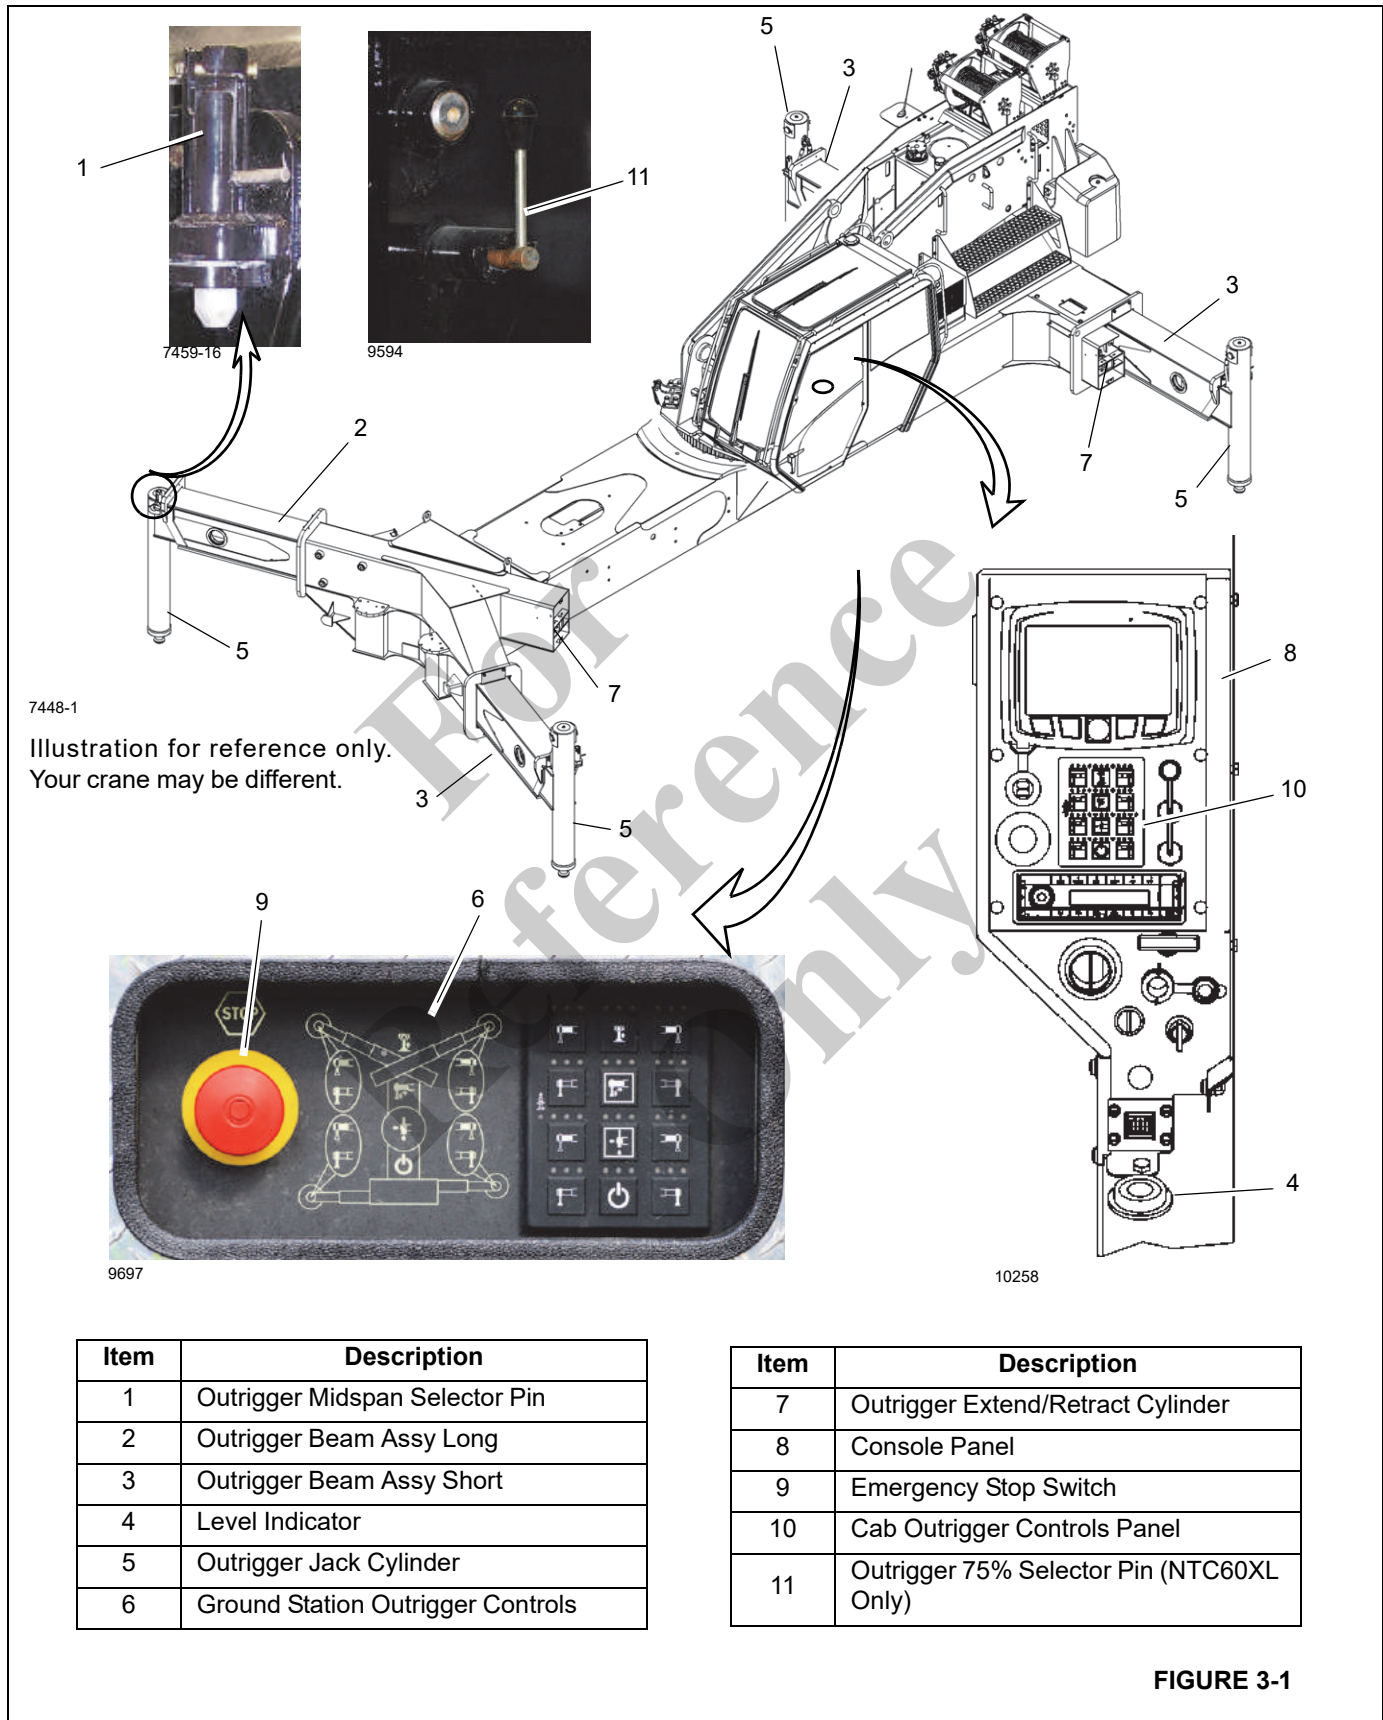
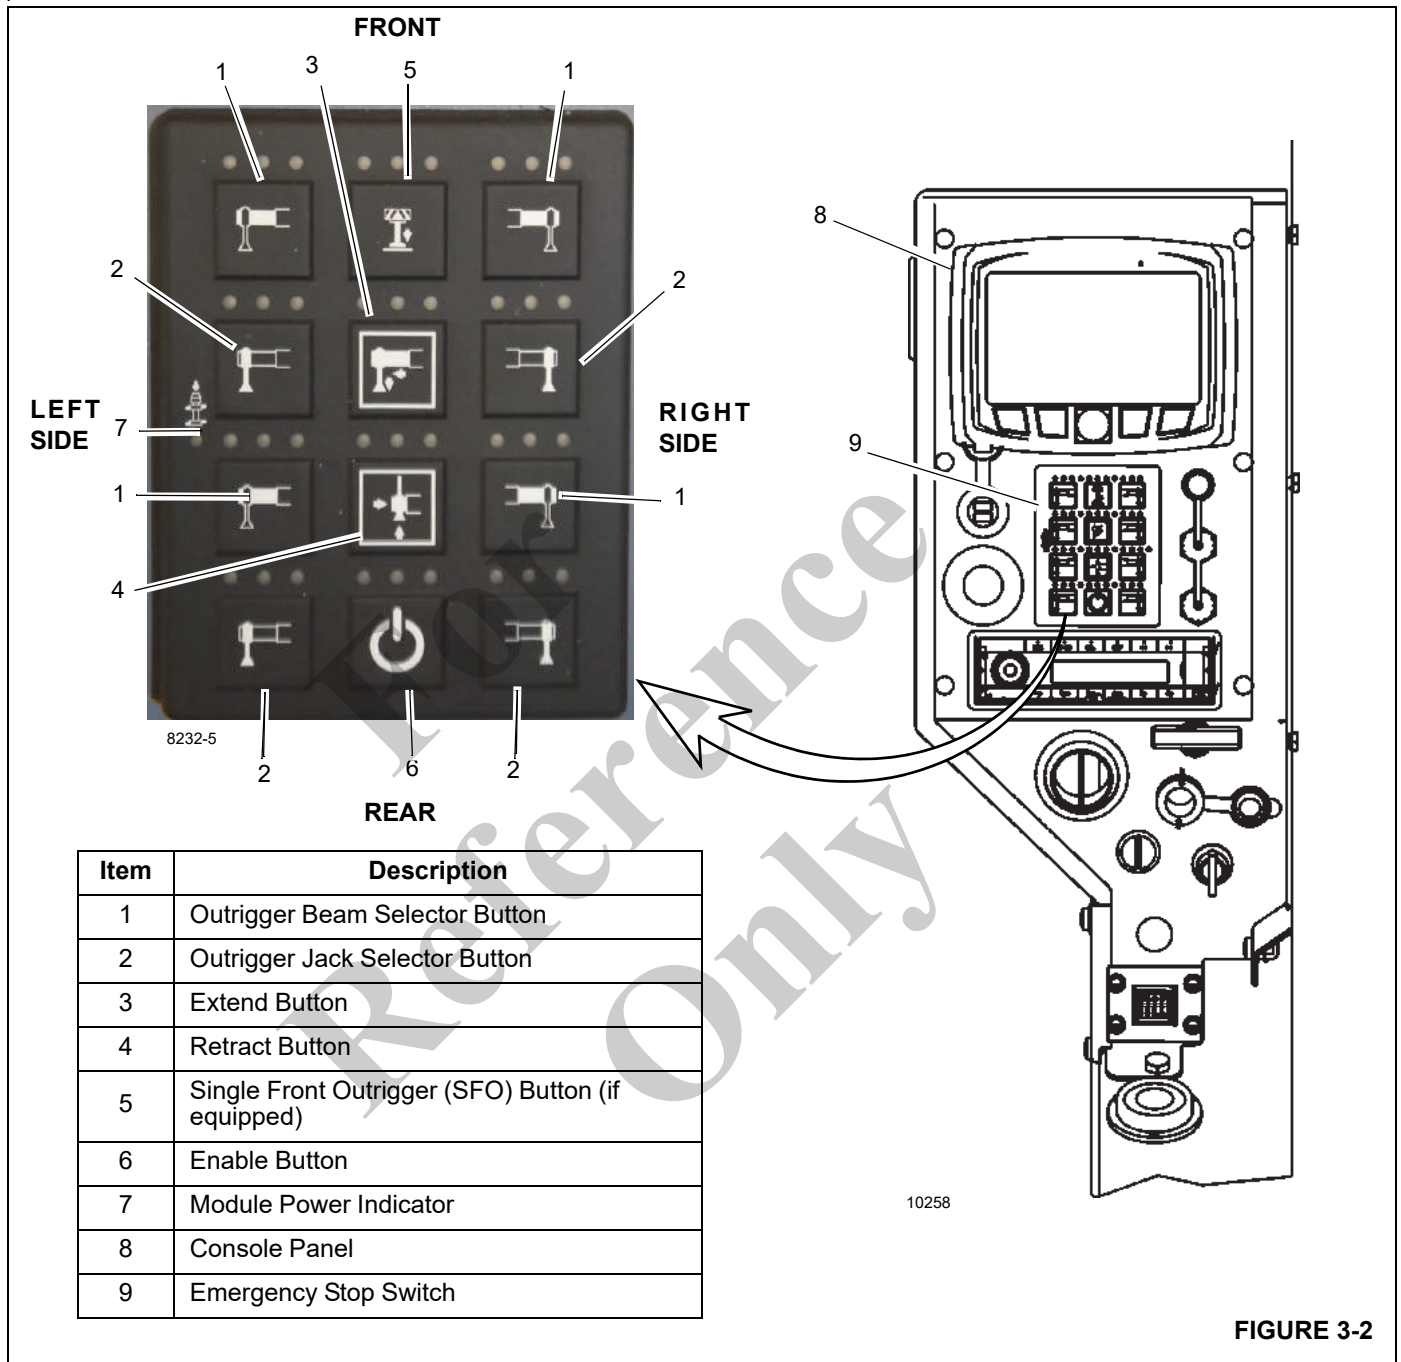

FIGURE 3-1
FIGURE 3-2
- The lower ground level outrigger panel Emergency Stop (ESTOP) switches (9, Figure 3-1) must be released.
- The Crane Cab ESTOP switch (9, Figure 3-2) must be released.
The outriggers can be operated from three locations, including the keypad controller located on the (Figure 3-1) crane cab console and two ground station control keypads (Figure 3-2) located on the left and right sides of the carrier frame. The cab outrigger controller contains the controls for extending and retracting the outrigger beams, for raising and lowering the outrigger stabilizer (jack) cylinders and for raising and lowering the single front outrigger (SFO), if equipped. The right (passenger) side ground station controls all vertical outrigger cylinders and the SFO (if equipped), but only the horizontal beams on the right (passenger) side of the crane. The left (driver) side ground station controls all vertical outrigger cylinders and the SFO (if equipped), but only the horizontal beams on the left (driver) side of the crane.
The outrigger midspan selector pin (1, Figure 3-1) can be used to extend the outrigger to 50% of its length. On the NTC60XL only, the outrigger 75% selector pin (11) can be used to extend the outrigger to 75% of its length. For more information about deploying the outriggers, see “Outrigger Setup” on page 4-1.
The cab outrigger control panel (Figure 3-2) is located on the superstructure cab front console panel and is used to control the outriggers from inside the cab. The control panel contains a touch pad with control buttons and indicators for extending and retracting the outrigger beams, raising and lowering the outrigger jack cylinders and raising and lowering the single front outrigger (SFO), if equipped. If not equipped with an SFO, the SFO LED indicators above the SFO button illuminate red. The crane cab control station contains a level indicator and an emergency stop switch. All outrigger functions can be controlled from the cab control panel.
The ground station control panels are located on the left and right sides of the carrier decking (Figure 3-1). Each control station has control switches for extending and retracting the outrigger beams, for raising and lowering the outrigger jack cylinders and for raising and lowering the single front outrigger (SFO), if equipped. Each station contains a level indicator and an emergency stop switch.
There are four outrigger jack selector buttons located on each outrigger control panel (Figure 3-1 and Figure 3-3).
The enable button is located on cab outrigger control panel (Figure 3-2) and is used in conjunction with Pre-selection of outrigger selector switches control the outrigger functions.
The extend button is located on the outrigger control panel (Figure 3-2) and is used in conjunction with the enable buttons to control both the outrigger beams or the jacks functions.
The retract button is located on the outrigger control panel (Figure 3-2) and is used in conjunction with the enable buttons to control both the outrigger beams or the jacks functions.
LED indicators display the status of the control button being selected (Figure 3-2) on the cab outrigger control panel. A LED will illuminate for 5 seconds after a button has been selected.
The module power indicator is located on cab outrigger control panel and indicates the outrigger control station (Figure 3-2) is activated when a green LED illuminates. The control station cannot be activated if the crane is performing another function. (For example: operating the boom.)
The outrigger beam selector buttons (Figure 3-2 and Figure 3-3) are used to operate the front or rear outrigger beams. Both sides can be operated from the cab outrigger control panel.
The ground control outrigger beam selector buttons (Figure 3-1 and Figure 3-3) are used to operate the front or rear outrigger beam only on the side of the crane the ground control is located.
Use the outrigger jack selector buttons (Figure 3-1 and Figure 3-3) to indicate which jack you desire to operate.
The Single Front Outrigger (SFO) button is located on the outrigger control panel (if equipped) for the cab outrigger controls (Figure 3-2) and ground outrigger controls (Figure 3-1 and Figure 3-3). The SFO button is used to lower and raise the optional center front stabilizer. To operate the SFO, press the SFO button to activate and then press extend/retract button. The SFO automatically retracts if any of the other jacks are adjusted and must be reset if lifting is to be continued. If not equipped with an SFO, the red LED is lit.
There is an emergency stop switch (Figure 3-2 and Figure 3-3) located at each outrigger control on each side of the carrier (Figure 3-3) and inside the cab on the front console (Figure 3-2). Pressing an emergency stop switch shuts down the engine.